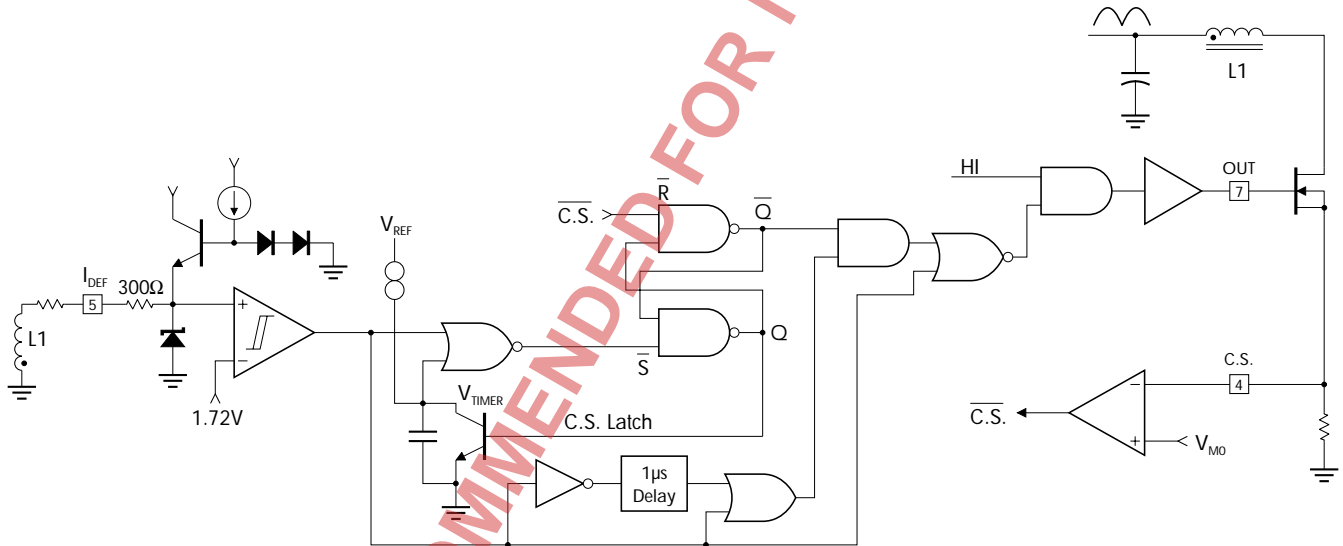

FIGURE 30 — START-UP TIMER & CURRENT DETECT LOGIC CIRCUITRY
The function of "current detect logic" is to sense the operating state of the boost inductor and to enable the output driver accordingly. To achieve this, the downward slope of the inductor current is indirectly detected by monitoring the voltage across a separate winding and connecting it to the detector input " I_{DET} " pin. Once the inductor current reaches ground level, the voltage across the winding reverses polarity and changes the " I_{DET} " input and the comparator output to the low state (See Figure 30). When comparator changes state, it sets the latch and turns on the output driver for a period of $1\mu s$ (typ.) regardless of any changes in the latch output (\bar{Q}) within this period. This ensures that if the C.S. comparator changes state due to any turn-on spike, the driver output remains on and does not turn off prematurely.
A start-up timer circuit eliminates the need for an external oscillator when used in stand alone applications. The timer, as shown in Figure 30, provides a means to automatically start the pre converter if the latch output Q̄ comes up in a wrong (HI) state. The timer capacitor ramps up and resets the latch to a low state, turning the output driver on.